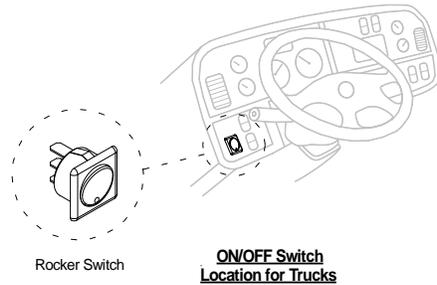

Fig. 2
1. Turn Power Switch On (If applicable): To activate power to the liftgate, turn the cab shutoff switch, **Fig.2**.